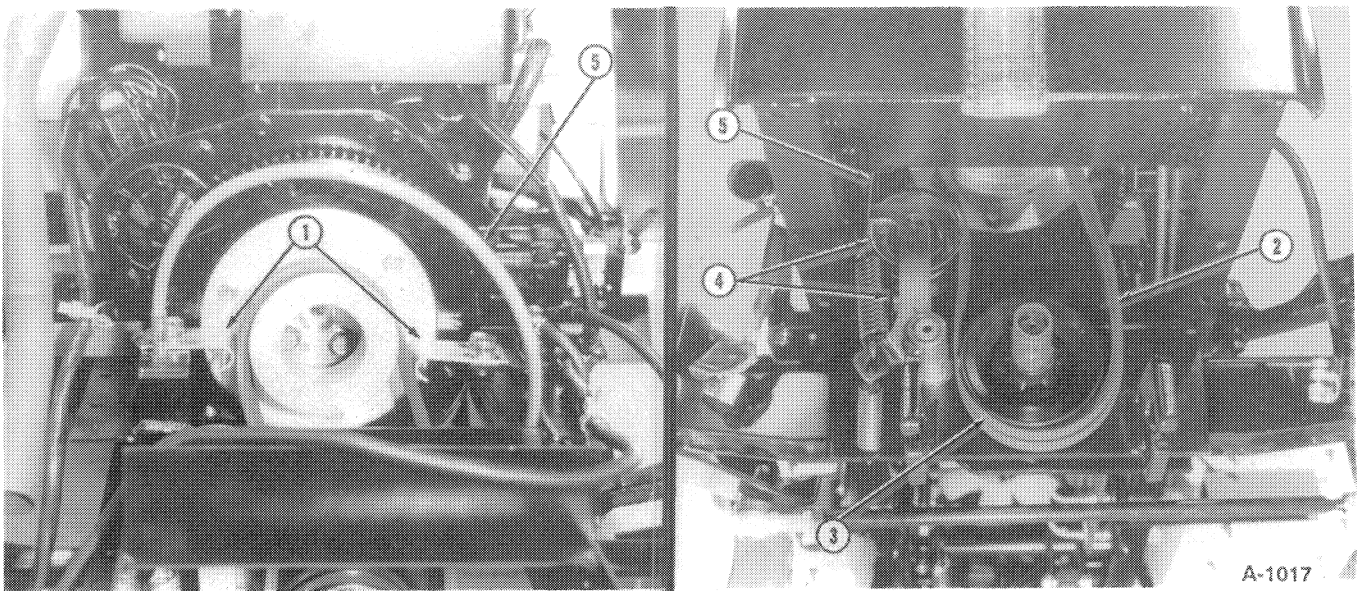

FIGURE 1-100
4. Remove the two belt guides, Figure 1-100.
7. Remove the lower PTO drive sheave, 4, Figure 1-100.